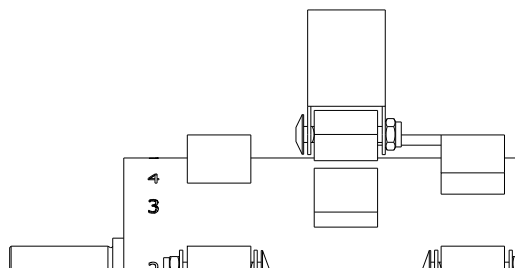

Fig.15
**See fig. 15 for the correct position of the brackets and blades.**